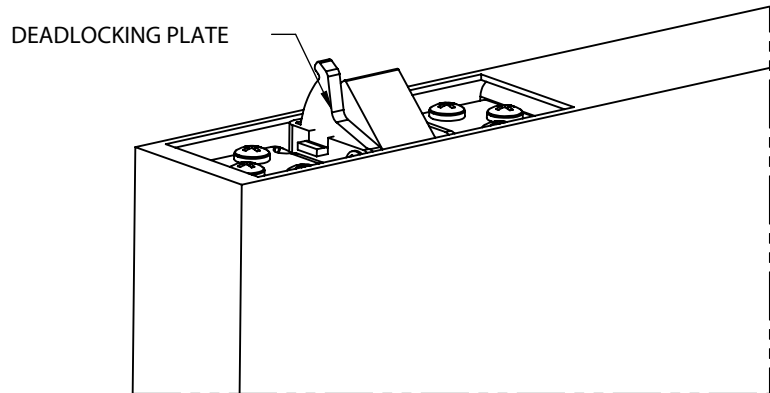

FIGURE 11
- B. Press the deadlocking plate (see Figure 11) to fully extend the latch bolt.